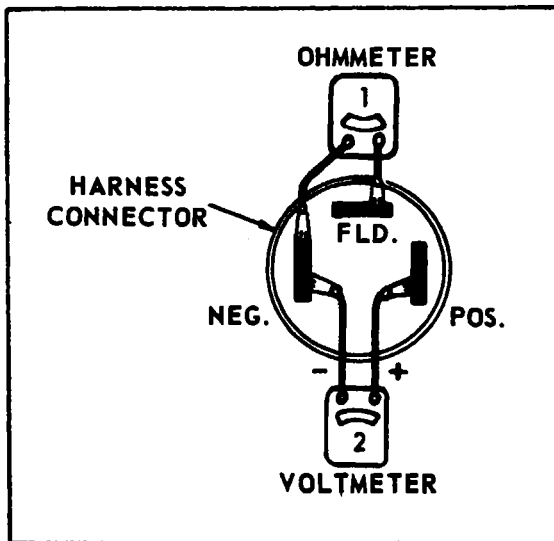

Figure 11-29. Volt - Ohmmeter Test
a. Check the alternator field resistance with an ohmmeter as shown in Step 1, Figure 11-29, and note the reading. Make sure the master switch is OFF. Readings of less than 2-ohms, or more than 8-ohms indicate a defective field winding in the alternator or a defective wiring harness. If the reading is within the 2 to 8-ohm range, check the reading against the allowable resistance in the circuit which can be calculated by dividing the specified voltage for the alternator by the current rating. The specified voltage and the current rating values are found in paragraph 11-66.
- b. With switch turned ON, connect voltmeter as shown in Step 2, Figure 11-29. Make sure positive (+) and negative (-) voltmeter leads are connected as shown.